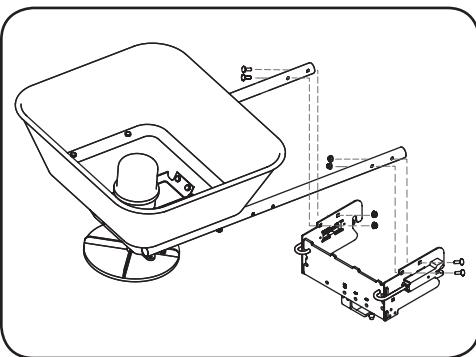

Figure 1-8
6. Use two carriage screws and locknuts per side to attach the indented ends of the single frame tubes, to the top of the EZ Connect Hitch Bracket. See Figure 1-8.